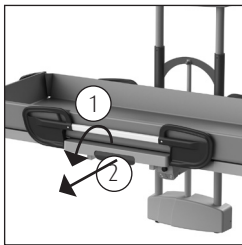
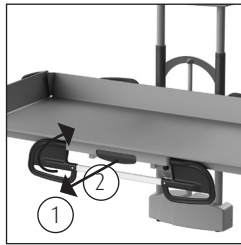
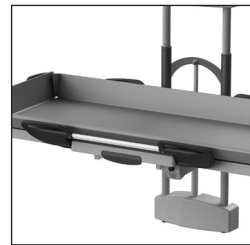

Figure 1 Side rail.
Figure 2 Side rail down.
Figure 3 Side rail wide.
- The side rail is equipped with safeguards (1) so that the client cannot raise the side rails themselves (See figure 1).
- Unlock the safeguard by using one hand to pull the protruding handle (1) and rotating the side rail with your other hand (2).
- Turn the side rail upwards again to close the side rail. The side rail locks automatically (See figure 2).
- The side rail can be placed in 2 positions, wide and narrow. When you fold the side rail upwards, the side rail is first locked in the wide position (See figure 3). By pulling the handle of the lock (See figure 2) you can move the side rail further back to its narrow position.